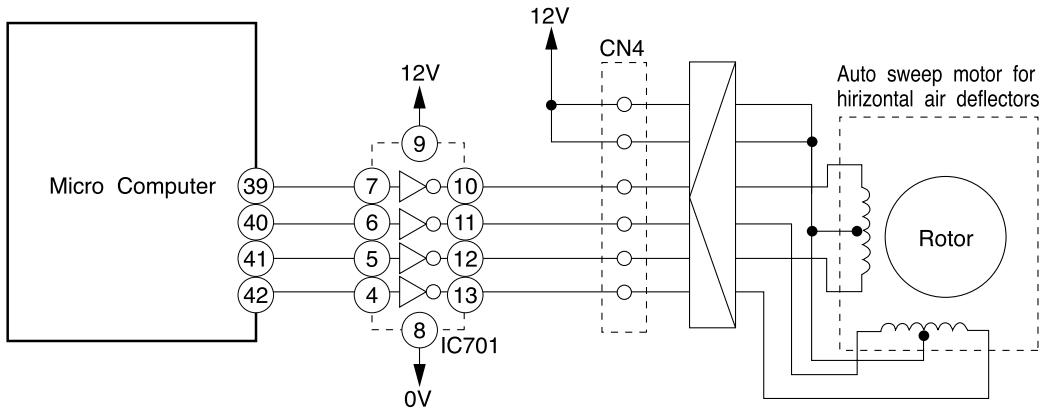
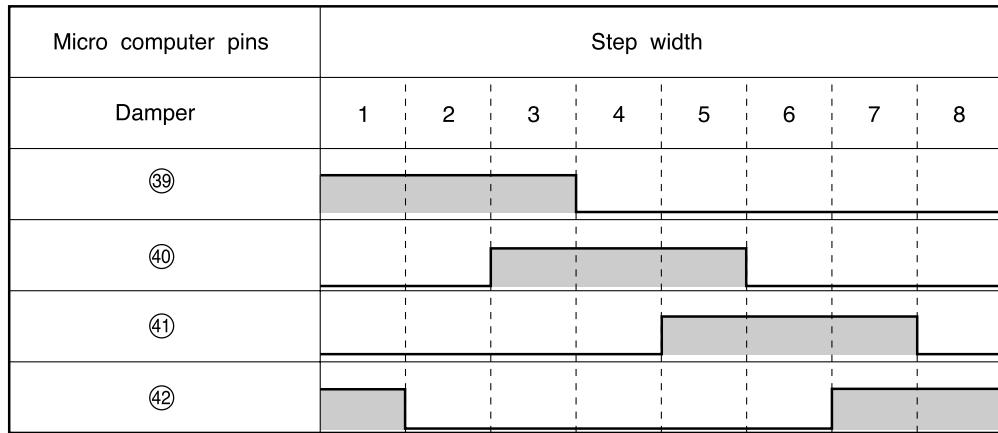

Fig.4-1 Auto Sweep Motor Circuit (Horizontal air deflectors)
Fig.4-2 Micro computer Output Signals
- Fig.4-1 shows the Auto sweep Motor drive circuit; the signals shown in Fig.4-2 are output from pins ⑨-⑫ of the micro computer.
- As the micro computer's outputs change as shown in Fig.4-2, the core of the stepping motor is excited to turn the rotor. Table 4-1 shows the rotation angle of horizontal air deflectors.